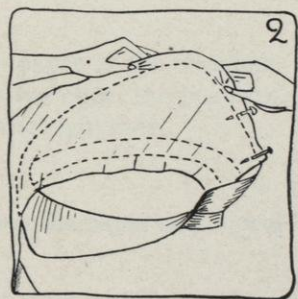

FIG. 2.
- c. Start where you want the seam to go, and pin $\frac{1}{2}$ inch of material extending beyond edgewire (see Figure 2) (or tack it in groove at edge of block).
- d. Stretch well and pin over edgewire (or tack in groove at edge of block), at 2-inch intervals (see Figure 2) until starting point is reached. This removes a great deal of fullness that you will find at the headsize.
- (1) If edgewire (E.W.) is a great deal larger than headsize, you may stretch outer edge of the material in the hand, as was done in "Draped Crinoline Brims—With Bias Crinoline,"